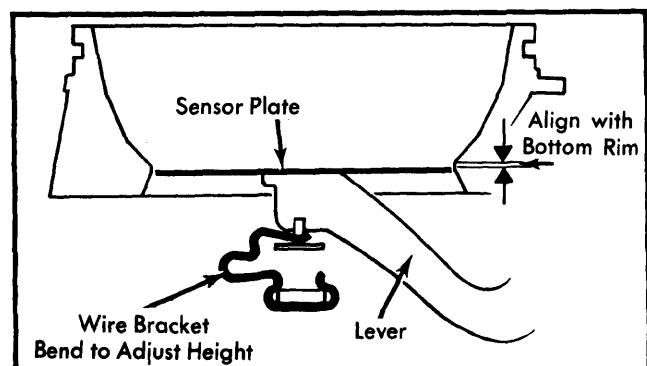

Fig. 2 Adjusting Location for Sensor Plate Height
6) To adjust sensor plate height, run engine until warm, then turn engine off. Remove rubber boot and check plate level. Bend clip up or down carefully until plate is even with bottom rim of air cone. Readjust CO% and idle after moving sensor plate. See Fig. 2.